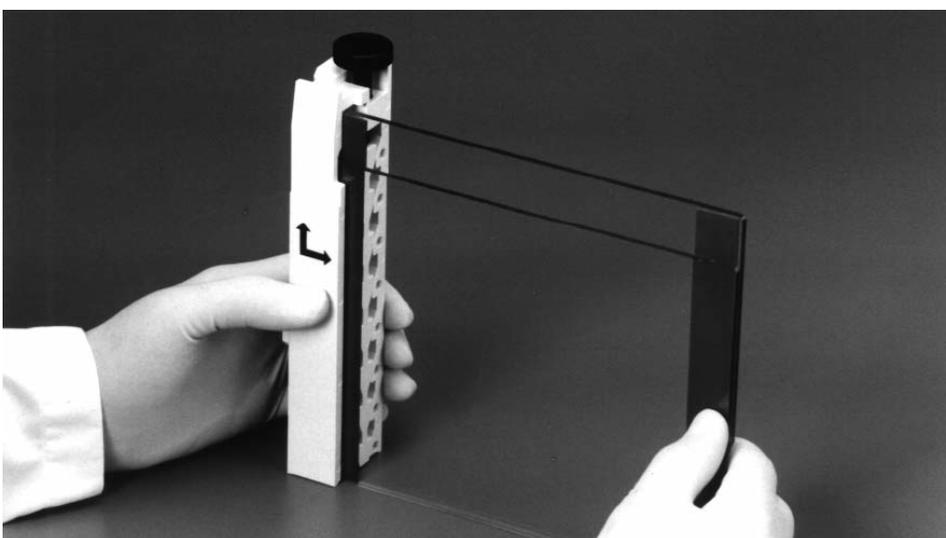

Fig. 4.25. Attaching the clamps to the glass plate assembly.
4. Grasp the gel sandwich firmly. Guide the left and right clamps onto the sandwich so that the long and short plates fit the appropriate notches in the clamp (Figure 4.25). Tighten the screws enough to hold the plates in place.